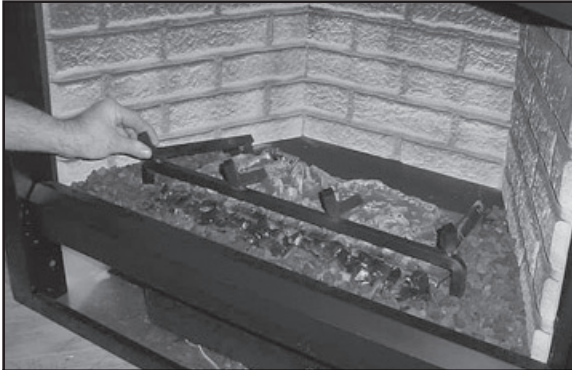

Figure 10.8 Place Grate
- Place the grate around the burner. Push back the grate until the left middle piece of the grate comes in contact with the burner assembly. See Figure 10.8.